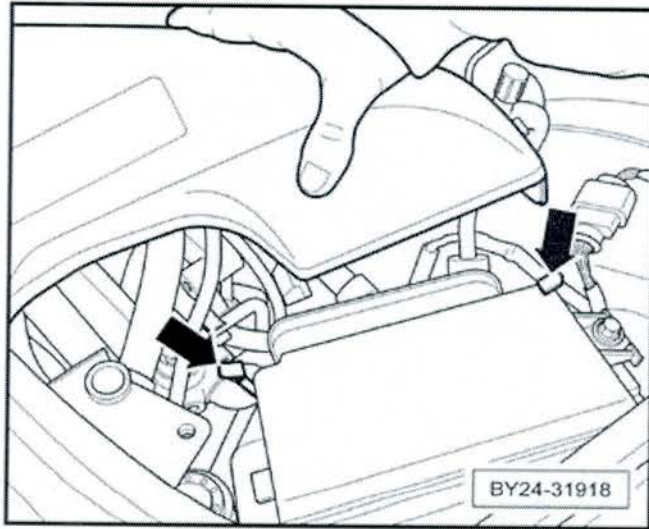

Figure 6
- Release the two spring clips – arrows- on both sides of the intake air duct and partially lift out from the air cleaner housing (see Figure 6)